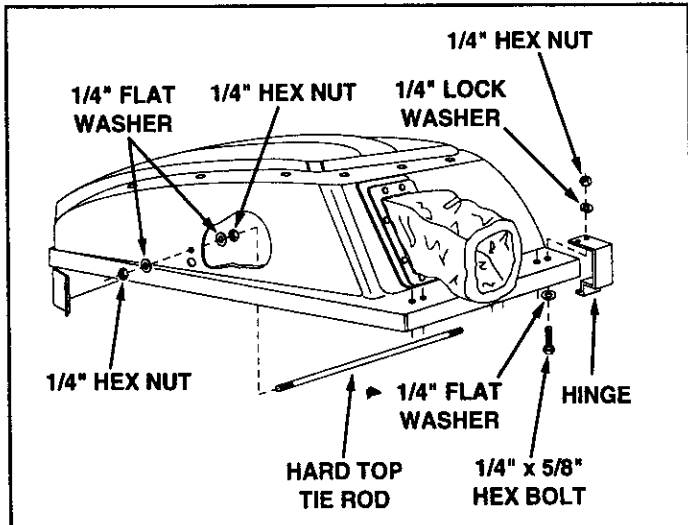

FIGURE 16
- Assemble a 1/4" hex nut and then a 1/4" flat washer onto each end of a tie rod. Insert the rod ends through the upper holes in the sides of the hardtop. Assemble another 1/4" flat washer and 1/4" hex nut onto each end of the tie rod. Adjust the hex nuts to make the distance between the sides approximately the same front to rear. **Tighten** the nuts. See figure 16.
- Assemble the three hinges to the front of the hard top using six 1/4" x 5/8" hex bolts, 1/4" flat washers, 1/4" lock washers and 1/4" hex nuts. Assemble the bolts and flat washers from the bottom. See figure 16.